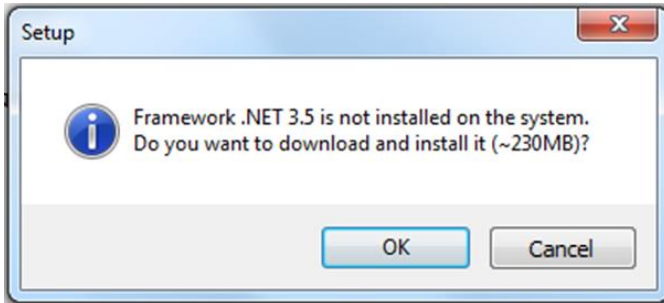

Figure 3
4. If Microsoft® Framework .Net 3.5sp1 is not installed on your system, the installation process won't continue and the user will be warned by a popup window (Figure 3). If you click **OK**, the installer will open a browser window, already addressed to the right link to download and install the .Net 3.5sp1.